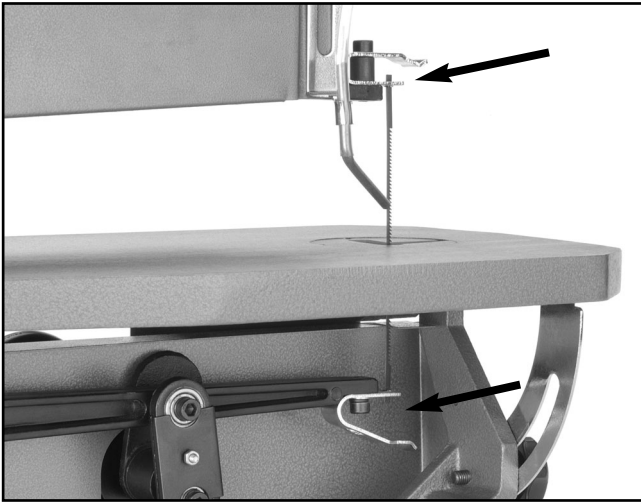

Figure 6. Blade attached to both holders.
2. Feed the blade through the table and hook into the lower blade holder as shown in **Figure 6**. The blade teeth should face forward and down.